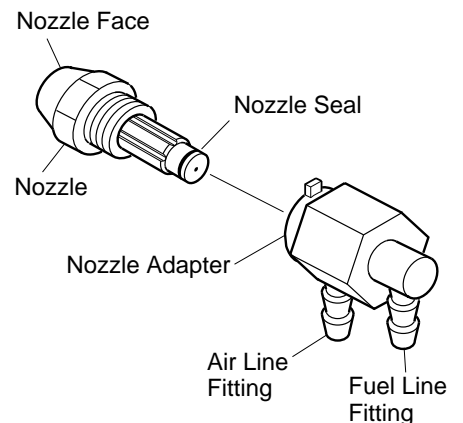

Figure 19 - Nozzle and Nozzle Adapter
6. Carefully remove nozzle from the nozzle adapter using 5/8" socket wrench (see Figure 19).
9. Replace nozzle into nozzle adapter until nozzle seats. Tighten 1/3 turn more using 5/8" socket wrench (40-45 inch-pounds). See Figure 19.